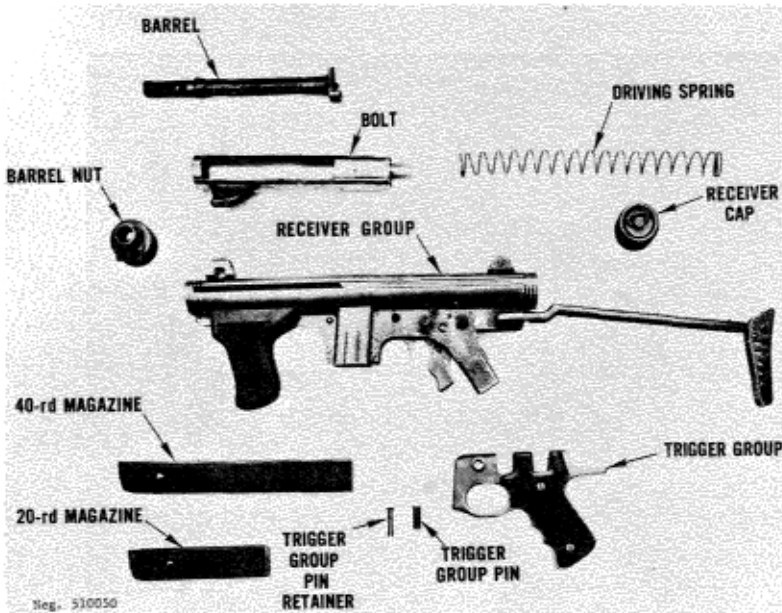

Figure 51. Beretta Model 12 disassembled.
c. Depress the receiver cap catch (fig 51) and unscrew the receiver cap. Remove the cap and driving spring.
d. If desired, push out the trigger-group pin retainer and then push out the trigger-group pin (fig 51). Pull the trigger group down and off the receiver.
i. Insert the barrel and bolt assembly into the front of the receiver, depress the barrel nut catch (fig 51), and screw the barrel nut into the receiver. Insert the magazine.